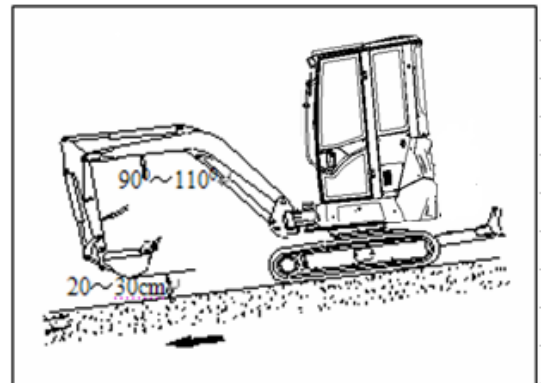

FIG. 4.4.8
- 8) The machine should travel at low speed and in a pose shown in FIG. 4.4.8 when it is traveling down on a slope of 15 °or more.